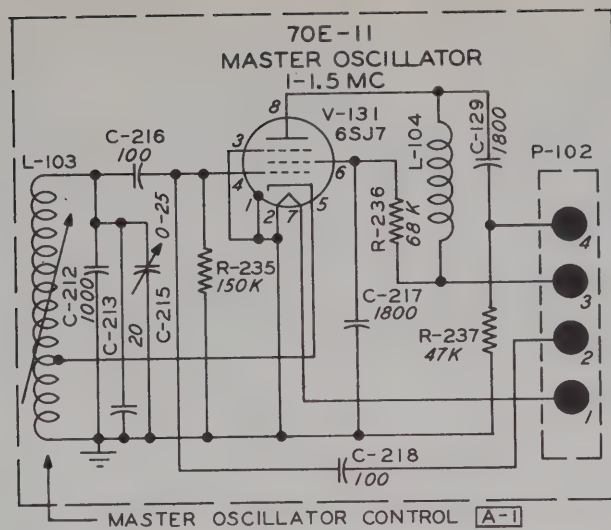

Figure 93. R-F Oscillator O-91/FRT-5, Master Oscillator Schematic Diagram.
- (a) *Master oscillator (fig. 93).* The oscillator assembly is a precision device which supplies an r-f output whose frequency is very stable under conditions of extreme temperature and humidity change. The circuit used is an electron-coupled type employing a 6SJ7 tube, V-131, and covering a frequency range of 1000 to 1500 kc. The output frequency of the oscillator is determined by the position of the tuning slug within the grid inductor, L-103, and the capacity setting of C-126, which is across the grid coil. The tuning slug position is determined by the setting of